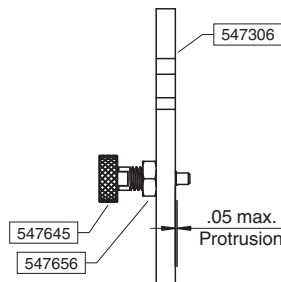

Figure 4.5 Yoke frame clearance setup
1. Insert two larger jam nuts (2x #547656) on the two larger plungers (2x #547645). Apply Loctite 243 (#547659) to the threads of the plunger. Install into the threaded holes near the pivot channel on the yoke frame (#547306). Set the nose end of the plunger when retracted to be protruding no more than .05". once installed, retract the plungers into the open position. Refer to Figure 4.5.